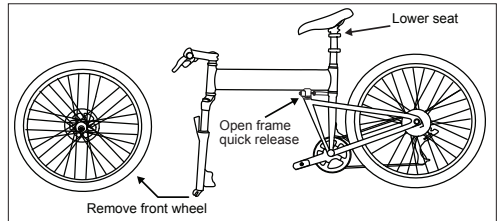

Fig. 35: Remove the front wheel & lower seat.
2. Open the CLIX front wheel quick release lever, then squeeze the cup and quick release lever together using the same motion used when operating a syringe (Fig. 28.b page 28) while removing the wheel (Fig. 35).
4. Open the frame quick release lever (Fig. 35).